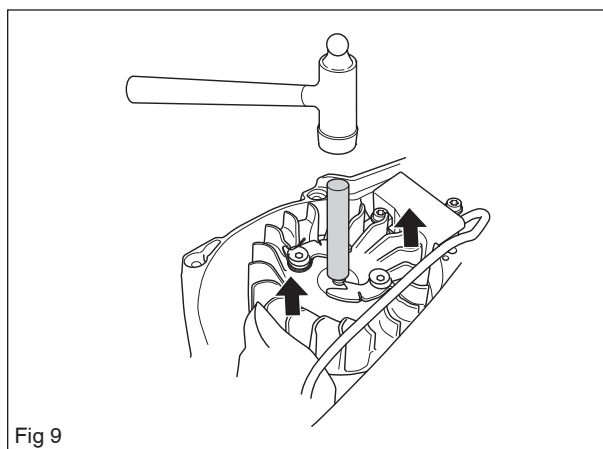

Fig 9
4. Thread the mandrel on the crank pin. Screw in until 1-2 threads are left to the flywheel. Knock on the mandrel with a suitable metal hammer while at the same time pulling the flywheel outward until the flywheel comes off the shaft. Remove mandrel and flywheel. See figure 9.